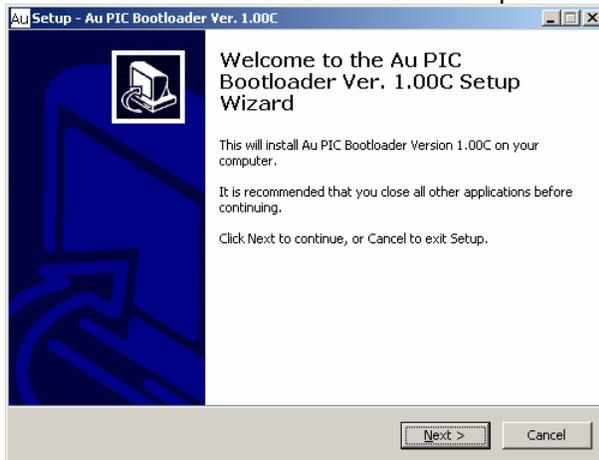

Figure C-2
2. “Welcome to the Au PIC Boot-loader Setup Wizard” window show up, click “Next” (Figure C- 2)